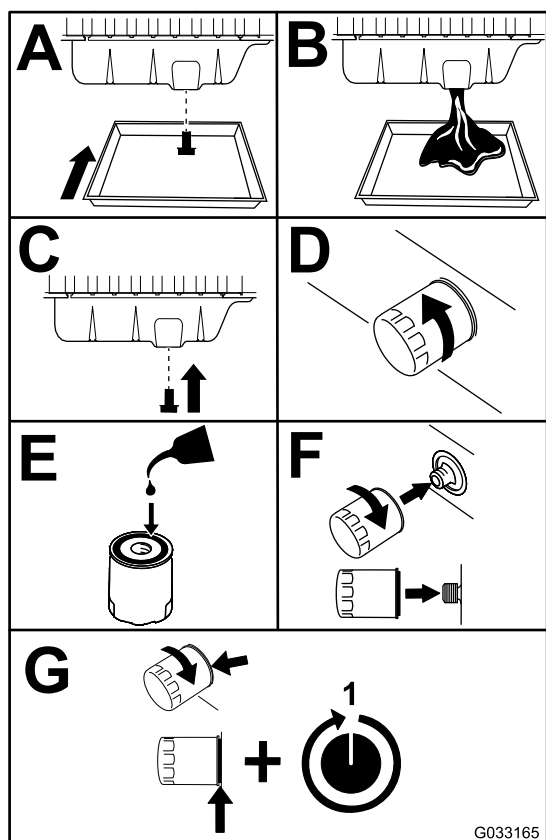

Figure 72
3. Replace the engine oil and filter (Figure 72).